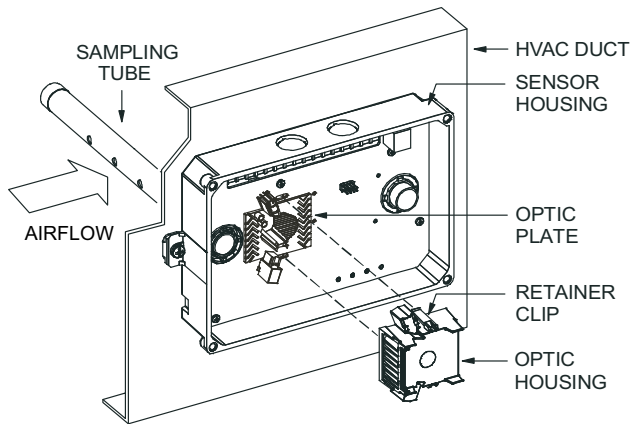

Fig. 42 — Sensor Cleaning Diagram
1. Disconnect power from the duct detector then remove the sensor's cover. (See Fig. 42.)